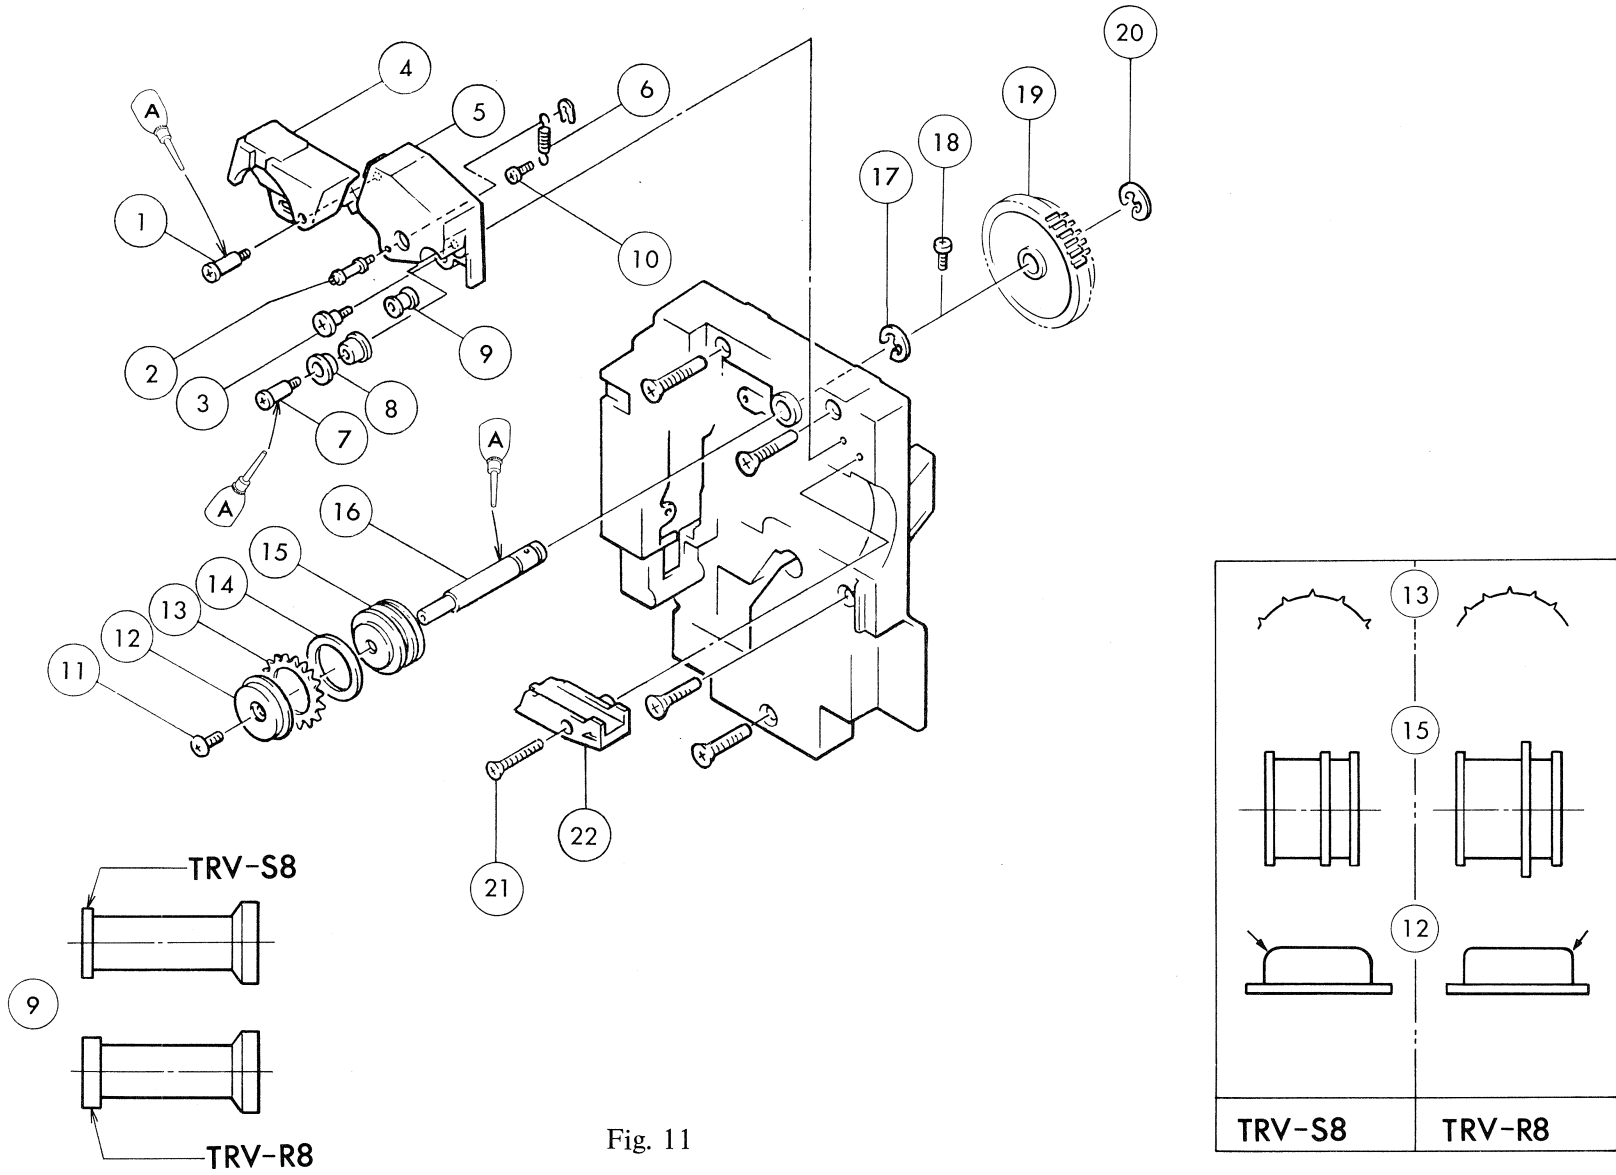

Fig. 11
III – 2 – 3 First Sprocket Assy and Shoe First Sprocket (See Fig. 11)
1. Unscrew ⑳ to remove ㉑, and open the holder lens to this side.
2. Unscrew 1 piece each of ③ and ⑩ to remove ④ and ⑤.
3. Remove ①, and take out ④ from ⑤.
4. See Fig. 11 for further disassembly.